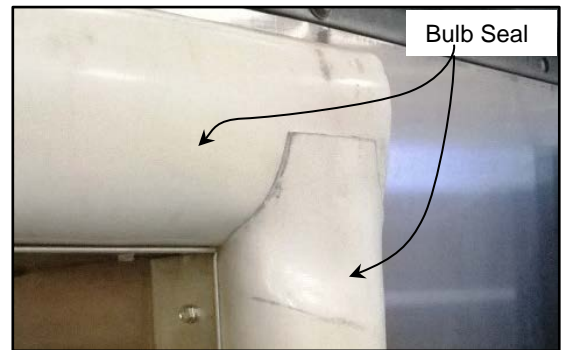

Figure 30
9. Inspect the bulb seals along the back side of each panel. The seals should not be worn, torn or damaged. Replace as necessary. (See Figure 30)